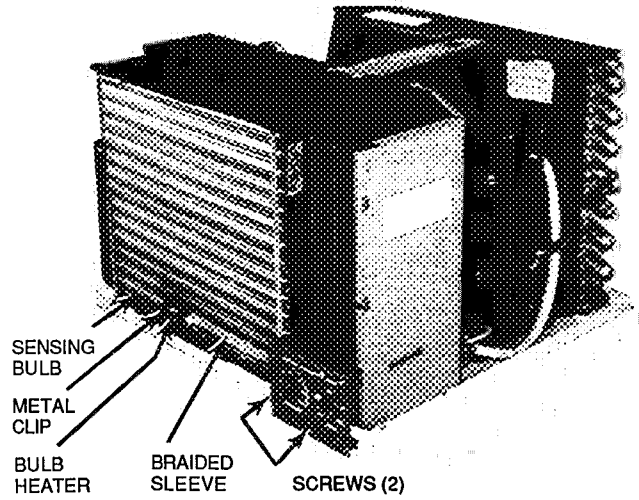

Fig. 7 – Removing Screws Securing Control Box to Chassis
5. Remove 2 screws securing control box to chassis. See Fig. 7.
6. Disengage plastic clip, then remove sensing bulb with attached bulb heater from coil face. See Fig. 7.
Thermostat Bulb Heater Removal — Use care not to damage sensing bulb or capillary of thermostat when handling bulb heater. See Fig. 7.
3. Remove plastic clip used to hold thermostat sensing bulb, bulb heater, and braided sleeve to coil. (See Fig. 7.)
5. Carefully remove bulb heater wires from braided sleeve (Fig. 7).
4. Remove plastic clip used to hold bulb heater, sensing bulb, and braided sleeve to coil. (See Fig. 7.)
5. Remove metal clip which connects bulb heater to sensing bulb. (See Fig. 7.)